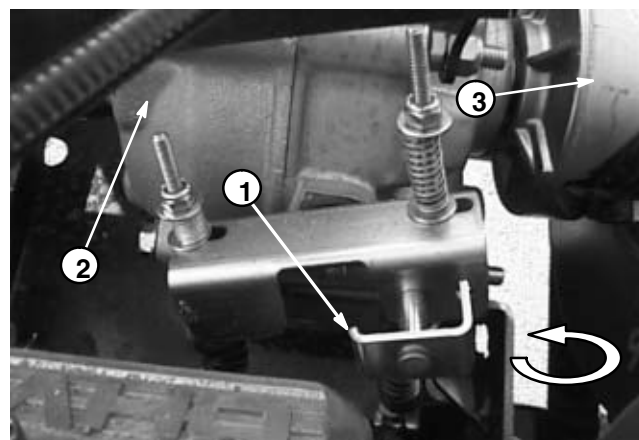

Figure 4
- B. Make sure transaxle is locked in neutral by rotating the driven clutch (Fig.4). The tires should not rotate. If tire rotation does occur, see Adjust Shift Cables – Chapter 5, Drive Train.
- A. Lock transaxle into neutral by rotating the locking pin 180° relative to the shift block (Fig. 4).
- C. Make sure transaxle is locked in neutral by rotating the driven clutch (Fig. 4). The tires should not rotate. If tire rotation does occur, repeat steps A & B until the tires no longer rotate.